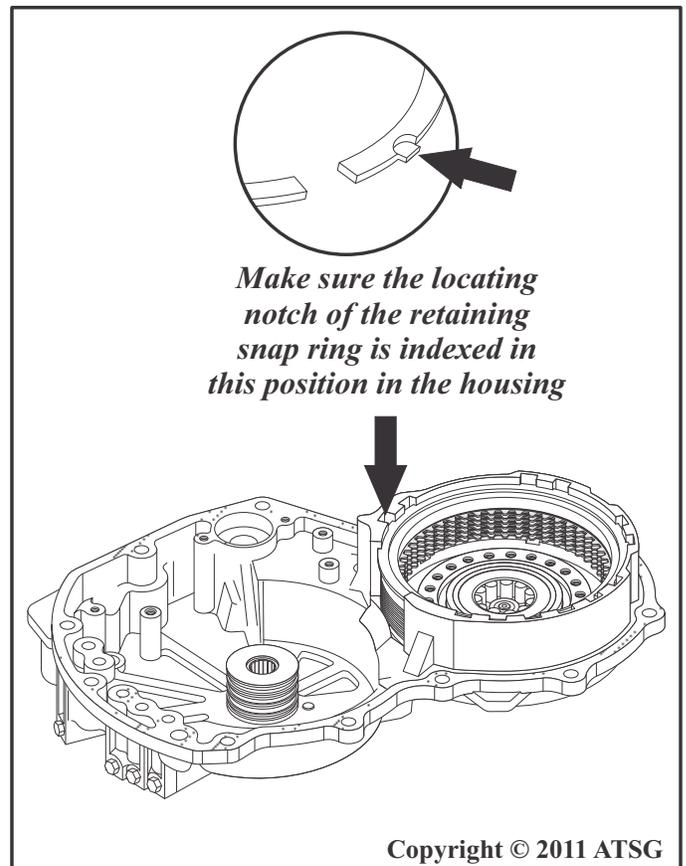

Figure 133
18. Make sure the locating notch of the retaining snap ring is indexed into the proper location of the housing as shown in Figure 133.